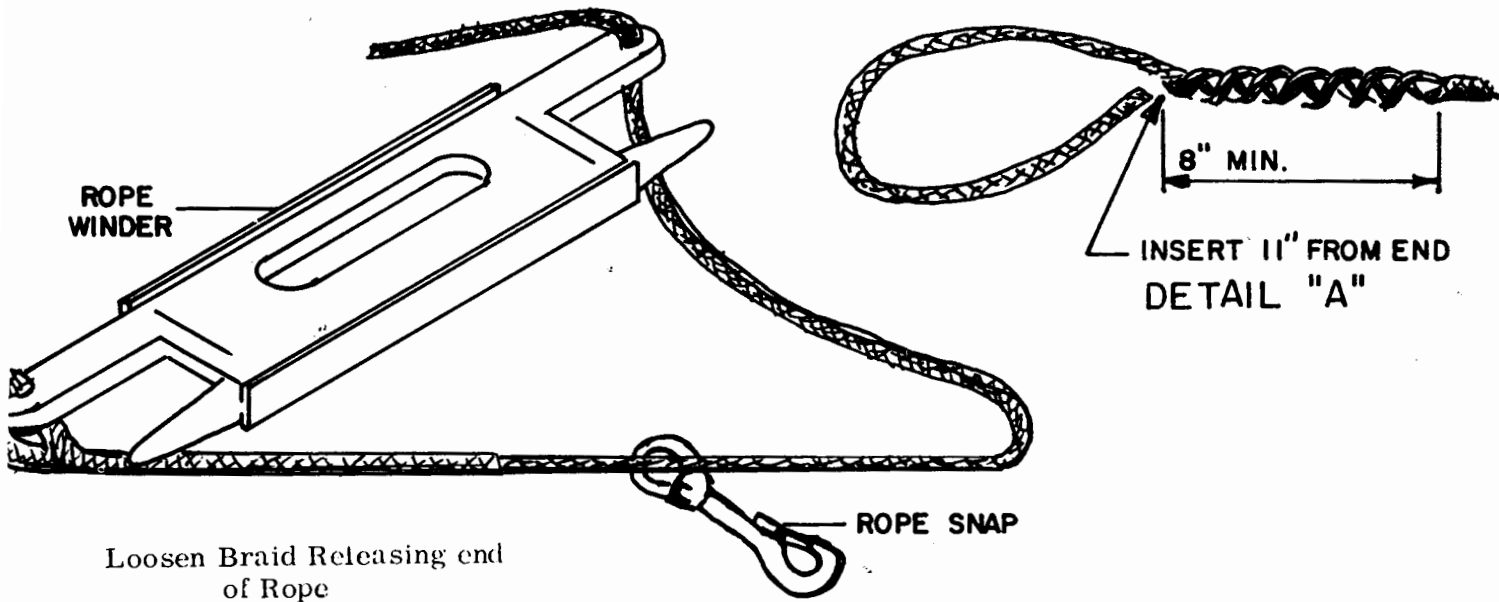

Figure 3-3 Replacing Rope Winder
(5) Terminate by opening braid of rope and inserting end a distance of 8" and pull tight. Refer to Figure 3-3.